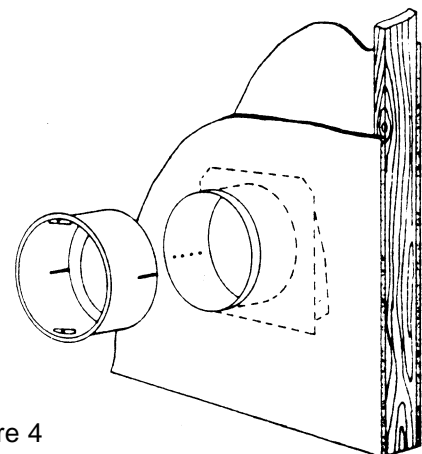

Figure 4
3. Working from inside the house, slide inside sleeve into place temporarily. Determine whether to remove one or both knockouts from outside sleeve, permitting outlet box to drop through. Remove knockouts from outside sleeve. (See Figure 4.)
6. Working from inside the house, slide inside sleeve into place temporarily. Determine whether to remove one or both knockouts from outside sleeve, permitting outlet box to drop through. Remove knockouts from outside sleeve. (See Figure 4.)